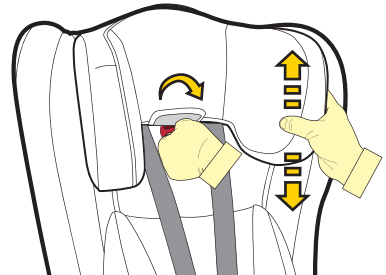

Figure 2
**Step 3:** Lift up or push down the headrest so that the shoulder strap slots are level with or slightly above your child’s shoulders. If the headrest is just above the shoulders then the harness level will be correct (refer Figure 2).